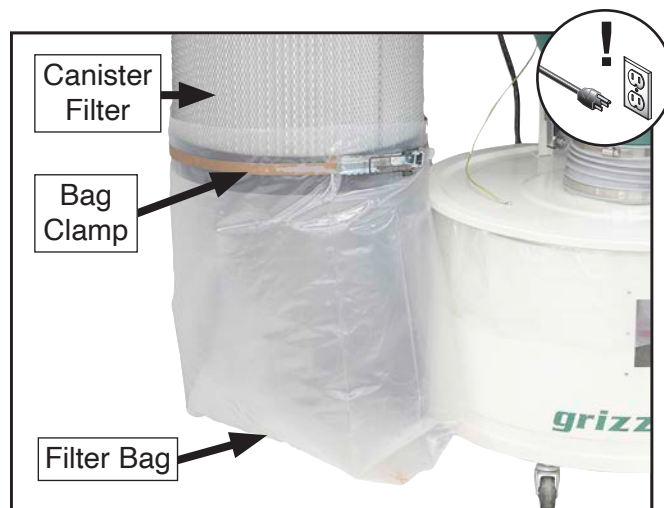

Figure 58. Filter bag attached to canister filter.
2. Release bag clamp from around bottom of canister filter, then remove filter bag (see **Figure 58**).